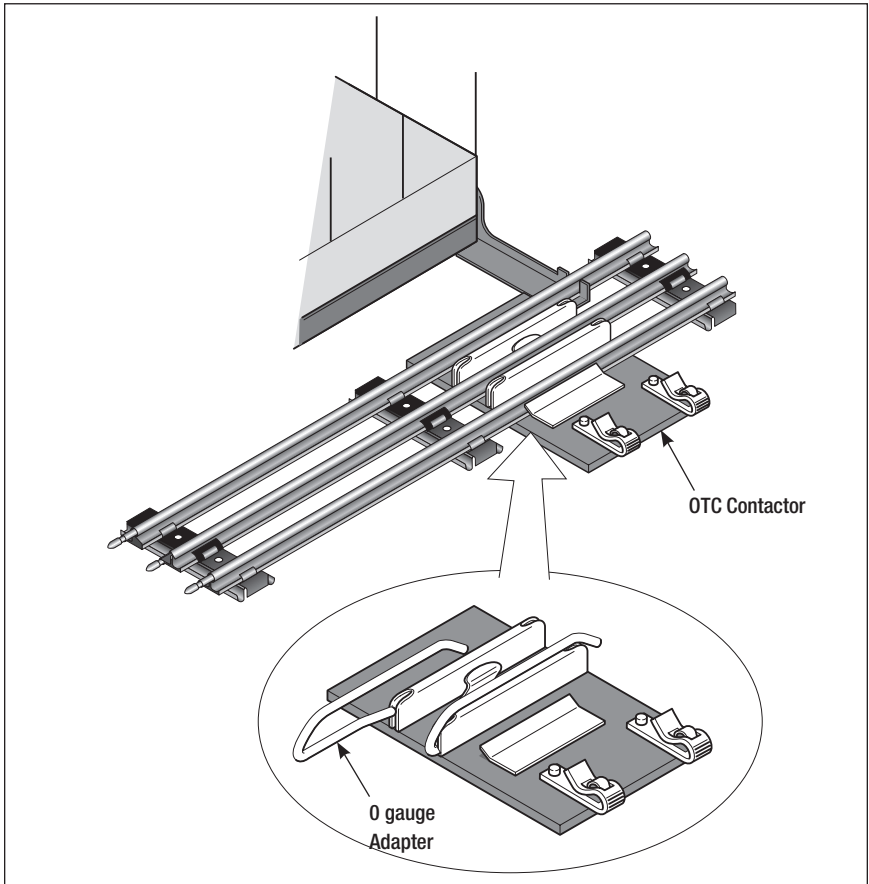

Figure 3. Attaching the wire adapter
3. If you have 0 gauge track, take a moment to install the wire adapters on your OTC Contactor. These adapters will raise the control blades to the proper height. As illustrated in Figure 3, simply insert the short end of the adapter into the control blade until the long end lies flatly on top of the blade.